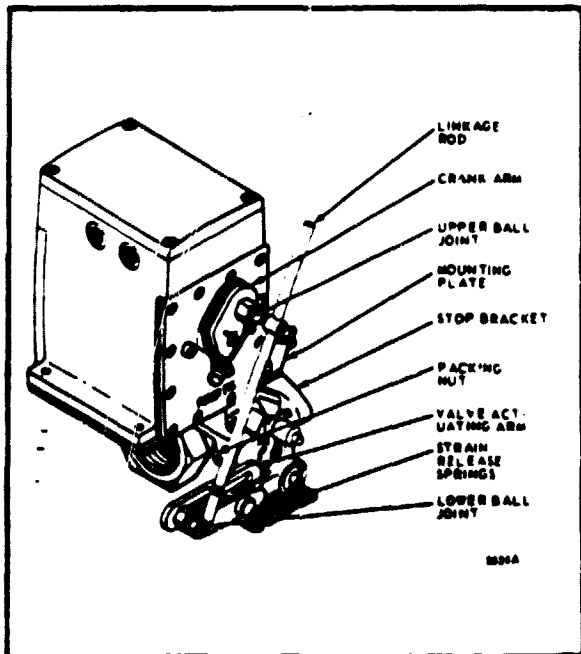

FIG. 5—TYPICAL COMBINATION OF VS1E, MODUTROL MOTOR, AND Q100B LINKAGE ASSEMBLY.
INSTALLING MODUTROL MOTOR AND Q100B LINKAGE ON VS1E (SEE FIG. 5):
4. Install valve actuating arm as shown in Fig. 5, and adjust as desired.
MODUTROL MOTOR WITH Q100B LINKAGE AND VS1E (SEE FIG. 5):